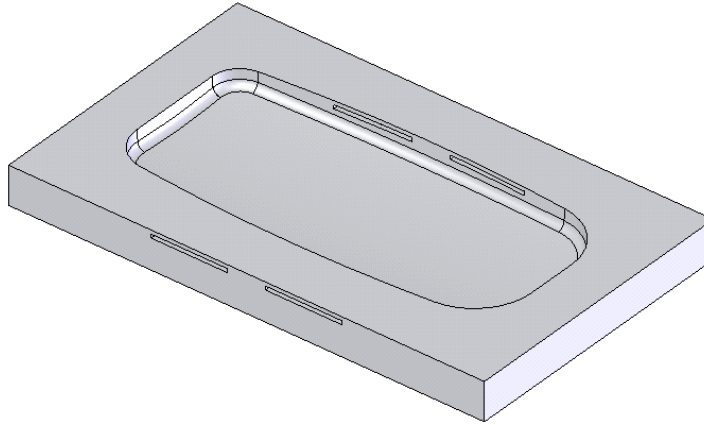

Figure 17-61 Cavity after creating the slots
- Create the slots in the cavity for the insertion of inserts, refer to Figure 17-61.
The final cavity after creating the slots is displayed in Figure 17-61.